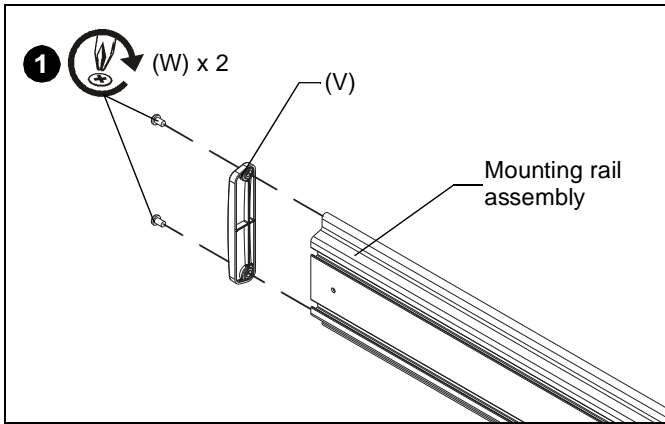

Figure 5
1. Add one end cap (V) to one end of mounting rail assembly, and fasten in place using two 1/4-20 x 1/2" Phillips self-tapping screws (W). (See Figure 5)
3. Fasten remaining end cap (V) to end of mounting rail assembly following Step 1. (See Figure 5)